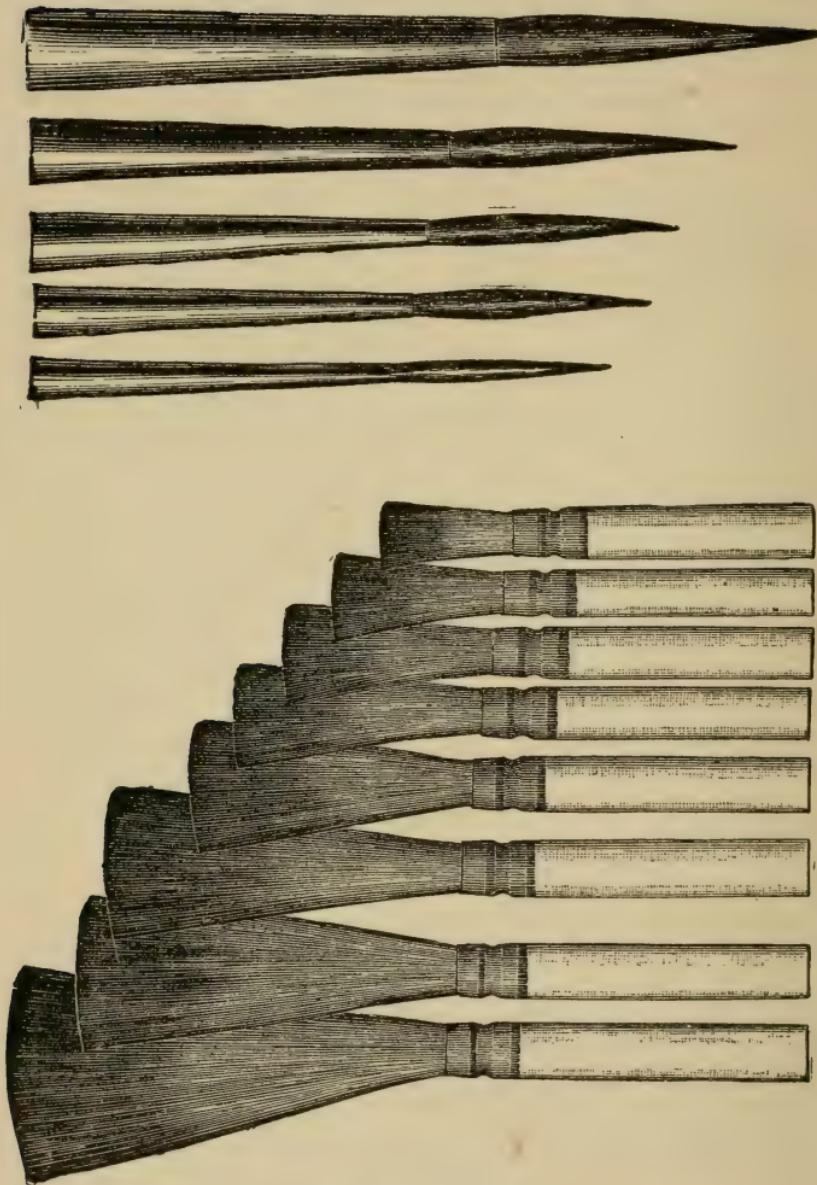
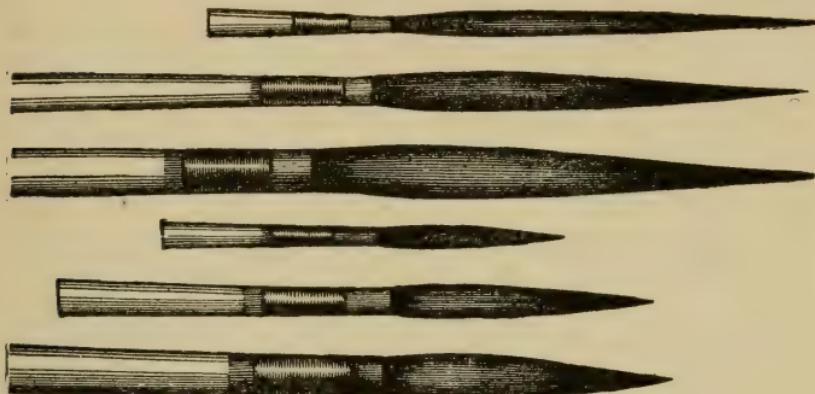
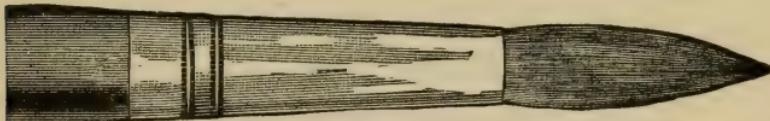

Fig. 36—Lettering.
Fig. 37—Striping Pencils.
Fig. 38—Round.
trate all other makes as shapes and bindings are about the same. See Fig. 36 for lettering and Fig. 37 for striping brushes, and Fig. 38 for metal bound handled.
c. *Sign writers' quilled and ferruled letterers* are the same in size and shapes as shown in Fig. 36.
d. *Striping brushes* of this material are indispensable for use in heavy colors. See Fig. 37 for shape and sizes.